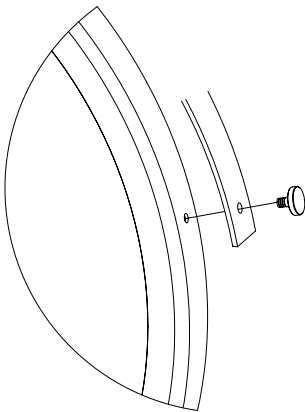

Fig 3. - Securing hanging strap bolts
6. Attach the decorative strap to the side of the mirror frame using the bolts provided, *see Fig. 3*. **Please note this is not intended to be used as the main weight bearing fixing.**